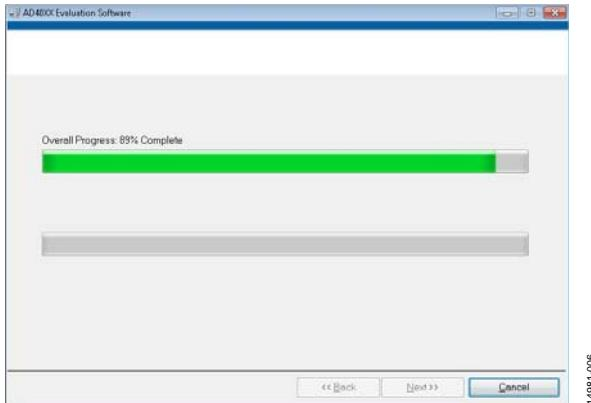

Figure 8. Overall Progress
5. A pop-up window opens and displays a bar showing the installation progress, as shown in Figure 8.